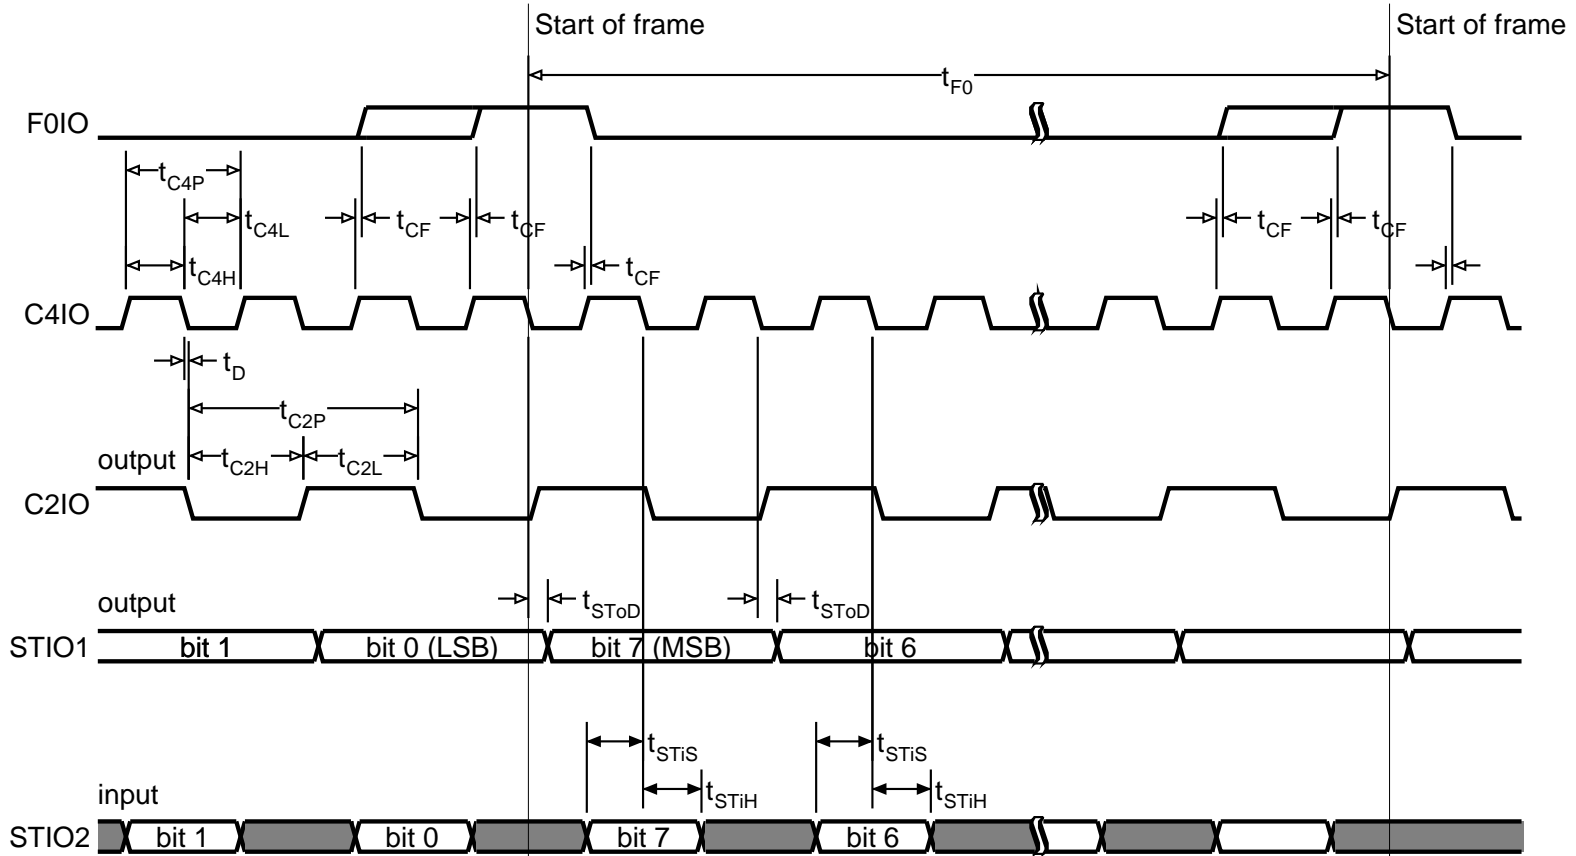
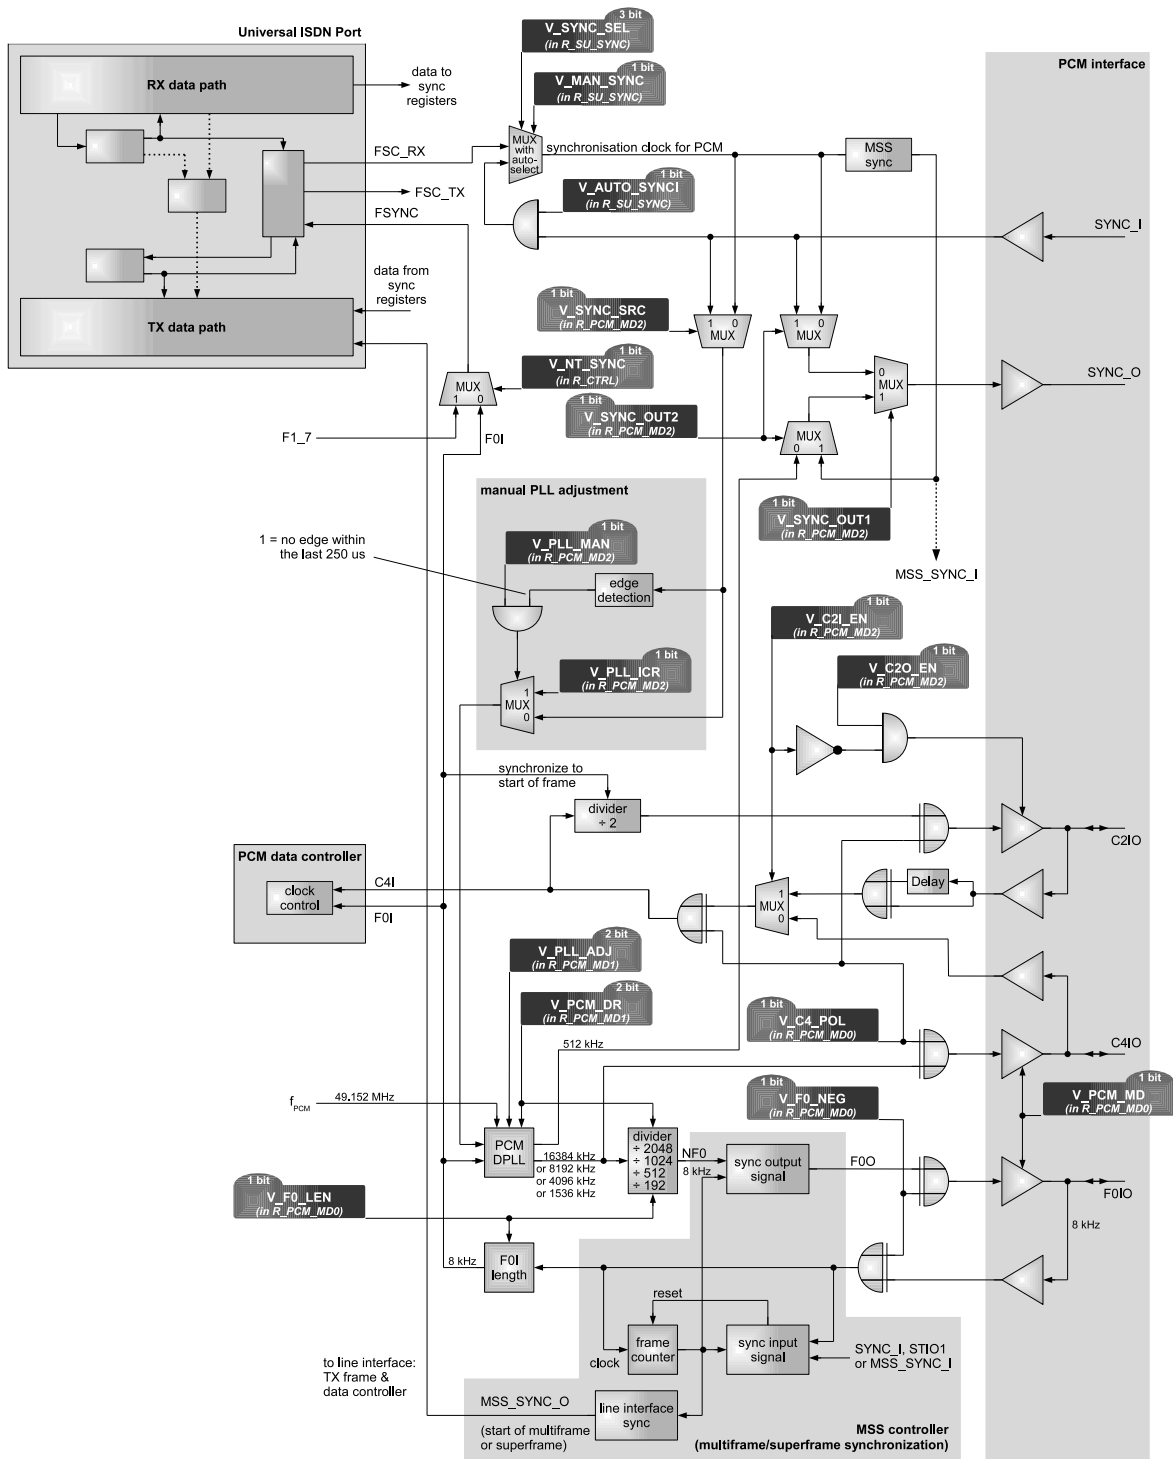
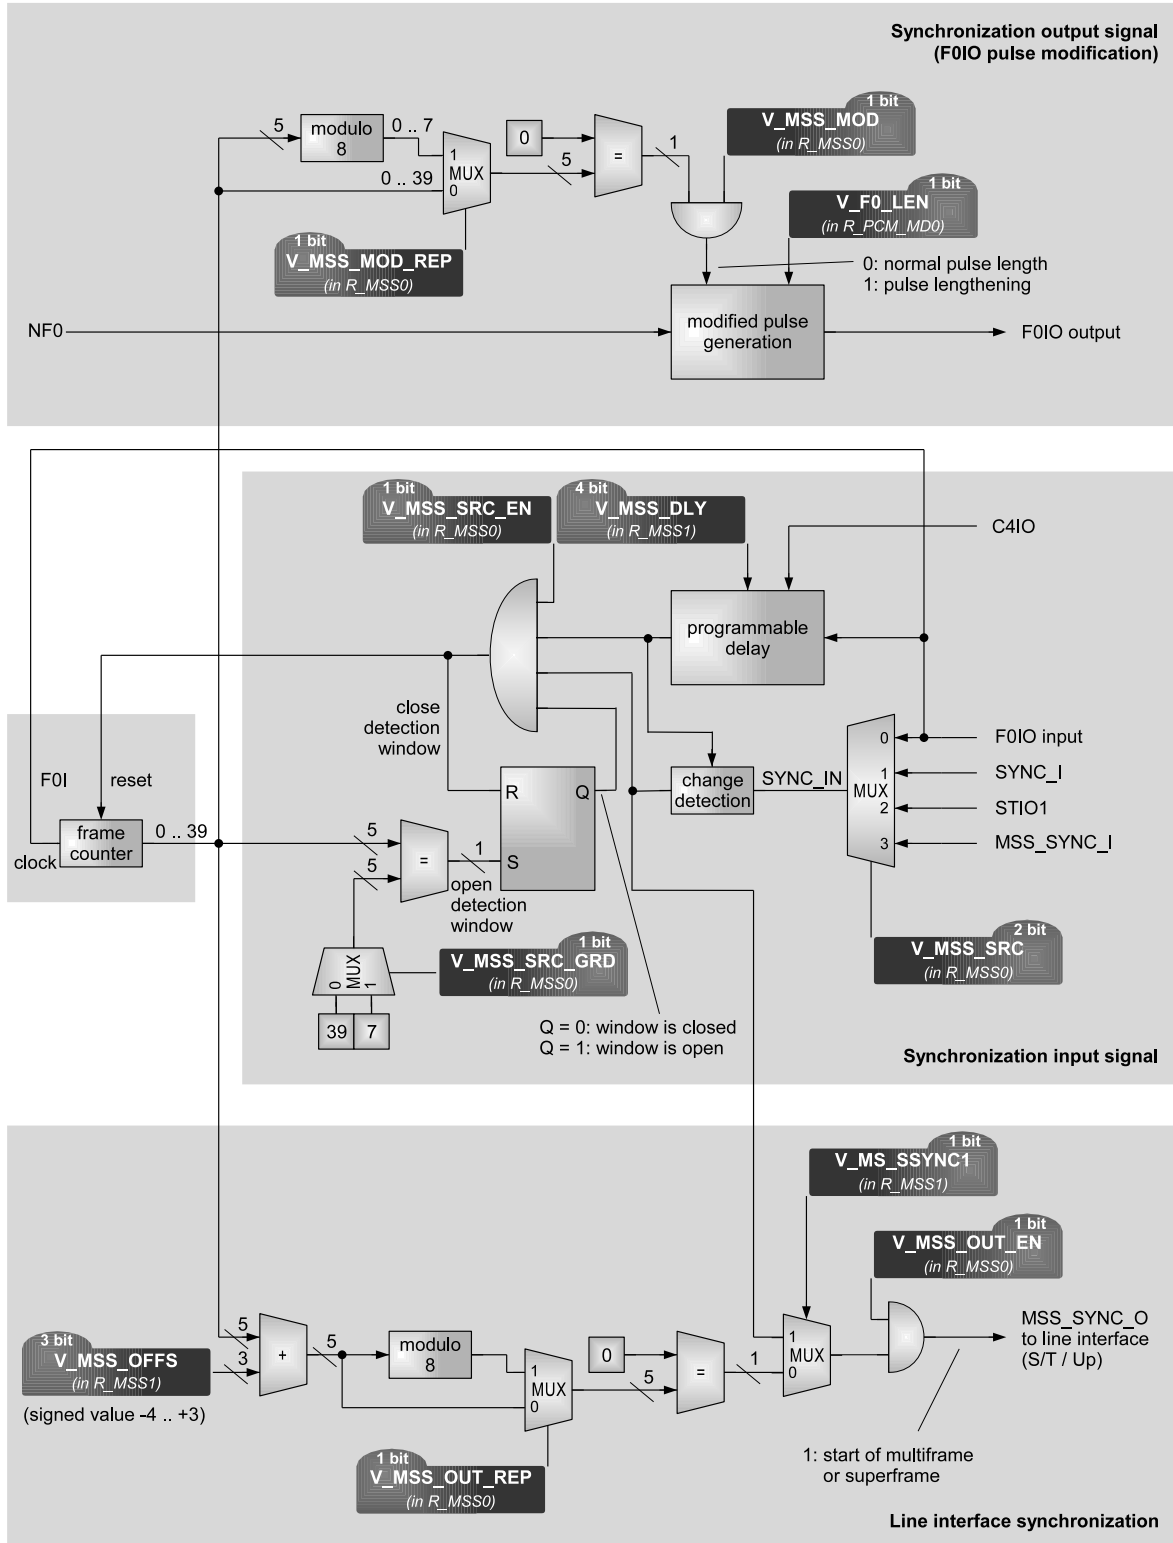

Figure 6.3: PCM timing for master mode
Figure 6.5: PCM clock synchronization (For details on the Universal ISDN Port see Figures 5.5 and 5.13, for details on the MSS controller see Figure 6.10)
Figure 6.10: Multiframe/superframe synchronization to the PCM interface
Slave mode is selected with V\_PCM\_MD = '0'. C4IO and F0IO are input pins in slave mode. External clocks must be connected to F0IO and also to either C4IO (when V\_C2I\_EN = '0' in register R\_PCM\_MD2) or C2IO (when V\_C2I\_EN = '1') in PCM slave mode because these signals are used from the ST/Up interface and the flow controller as well (see Figure 6.5 on page 221, signal C4I is required).
Figure 6.3 shows the timing diagram for PCM master mode. The timing characteristics are specified in Table 6.4. STIO1 is shown as data output and STIO2 as data input of XHFC-1SU. However, both pins can change their I/O characteristic with every PCM time slot.
The F0IO pulse is one C4IO pulse long with the default value V\_F0\_LEN = '0' in register R\_PCM\_MD0. F0IO starts one C4IO clock earlier if bit V\_F0\_LEN = '1'. These two pulse length are shown in Figure 6.3. The F0IO pulse can also be lengthened to indicate the start of a multiframe or superframe (see Section 6.6.4 on page 230).
**Table 6.4:** Symbols of PCM timing for master mode in Figure 6.3 (All values with 50 pF load. Larger load capacitance will increase output delays.)
The PCM clock synchronization is shown in Figure 6.5. It is associated with the line interface clock synchronization which is shown in Figures 5.5 (page 167) and 5.13 (page 183) and with the MSS controller (shown in Figure 6.10 on page 228).
C4IO is adjusted from the PCM DPLL (see Figure 6.5) during the last PCM time slot to synchronize the PCM interface with the ST/Up interface.1 The maximum number of edge adjustments during one 125 μs cycle can be configured in the range 1..4 by the bitmap value `V_PLL_ADJ` in register `R_PCM_MD1`. This automatic adjustment is enabled with `V_PLL_MAN = '0'` in register `R_PCM_MD2`.
In normal operation mode, the synchronization input signal is passed from the `V_SYNC_SRC` controlled multiplexer to the PCM DPLL as shown in Figure 6.5. For this `V_PLL_MAN` has to be '0' in register `R_PCM_MD2`.
C2IO output signal is derived from C4IO by a frequency divider. In fact, there is an additional building block (not shown in Figure 6.5) which ensures a specific phase relation at the start of a frame. According to the timing diagrams in Figures 6.3 and 6.4, C2IO has its rising edge at the start of a frame. From this follows that C4IO has a falling edge with every edge of C2IO.
SYNC\_O frequency can either be 8kHz, which is mostly used, or 512kHz. The 512kHz clock is synchronous to the frame clock as it is generated from the DPLL as shown in Figure 6.5.
The multiframe (S/T) or superframes ( $U_p$ ) of the ST/ $U_p$  interface can be synchronized to the PCM interface. Furthermore, the transmit / receive ping pong is synchronized in  $U_p$  mode. Figure 6.10 shows the block diagram of the MSS controller (multiframe / superframe synchronization controller). The controller consists of four parts which are explained from Sections 6.6.2 to 6.6.5.